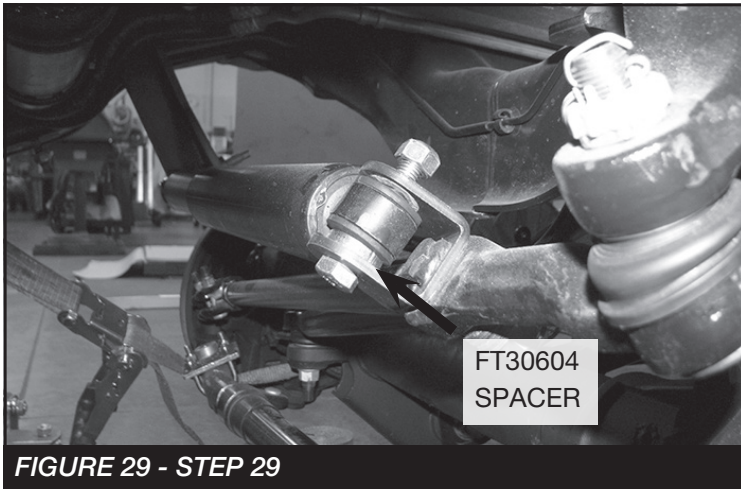

FIGURE 29 - STEP 29
29. Install FT30686 (Stabilizer Clevis) on the factory steering stabilizer using the supplied M12 hardware. **NOTE: Install FT30604 (spacer) like shown in the figure below.** Install the stabilizer using the supplied 1/2" washer and nut to the drag link. Using the factory hardware install the tapered end into the new Fabtech bracket. Torque to 127 ft-lbs. **SEE FIGURE 29**